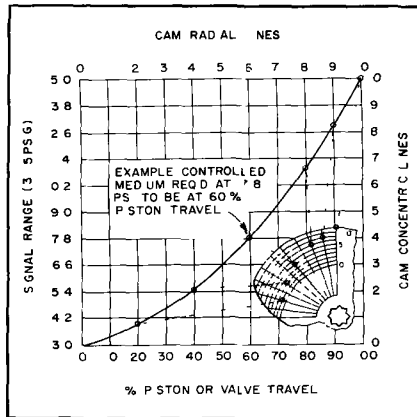

FIGURE 18 Locating Points for Shaping Positioner Cam for 3.15 ps Unit
1. Use cam selected in step 4 under "Characterized Cams". For each increment of control signal pressure (concentric lines), locate the piston (or valve) position (radial lines) required for specific control signal pressure. Refer to Figure 18 for method of locating these points.